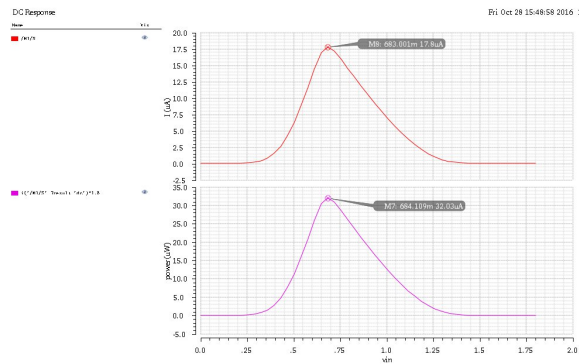

Fig. 5. Power plot
11) Power plot is shown in Fig 5.